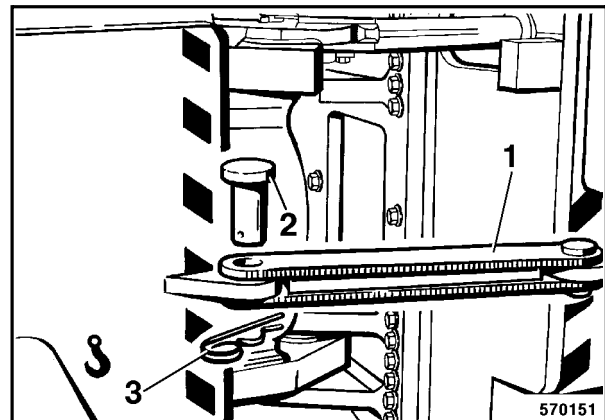

Fig. 1
- Set the control levers 31 and 29 (Fig. 1) to position "0".
- After driving the machine on the transport vehicle swing the articulation lock 1 (Fig. 1) out of its receptacle to the front and fasten it with the pin (2) to the eye on the front frame. Secure the pin with a safety cotter pin (3).